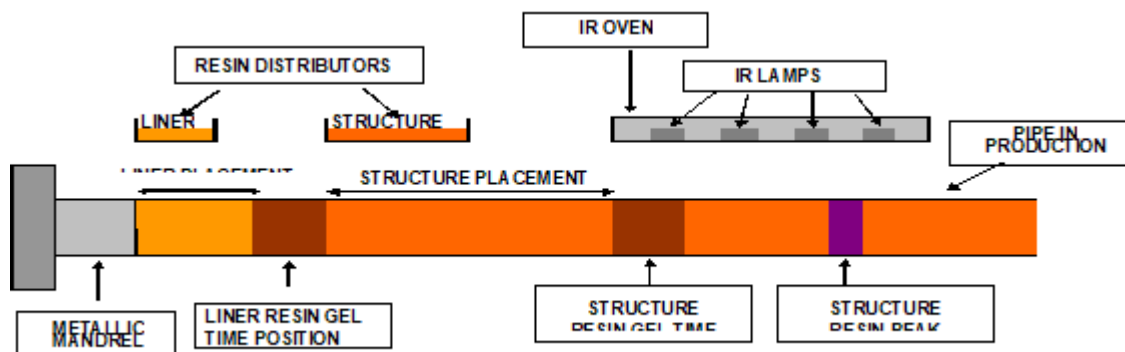

Figure 47: Schematic representation of the EFW pipe production
- distance between the beginning of the liner winding and the structural layer winding on the machine is about 1 m (see Figure 47 - liner displacement);
- liner resin gelation must occur before the structural layer winding, at about 0.6 - 1 m from the beginning (see Figure 47 - liner resin gel time position);
- structural layer gelation must occur between the beginning of the infrared oven zone and the end of the first infrared lamp, at about 1.8÷2 m from the beginning of the liner winding (see Figure 47 - structure resin gel time position);
- structural resin exothermal peak must take place between the third and the fourth infrared lamp, at about 3 m from the beginning of the liner winding (see Figure 47 - structure resin time-to-peak position);
When a suitable structural resin gel time is found in the Laboratory, the formulation can be used during the production. The machine operator must control the point of the structural resin gelation on the pipe during the production and, eventually, vary the peroxide concentration from the machine console in order to maintain the gel time point in the correct position (see Figure 47).